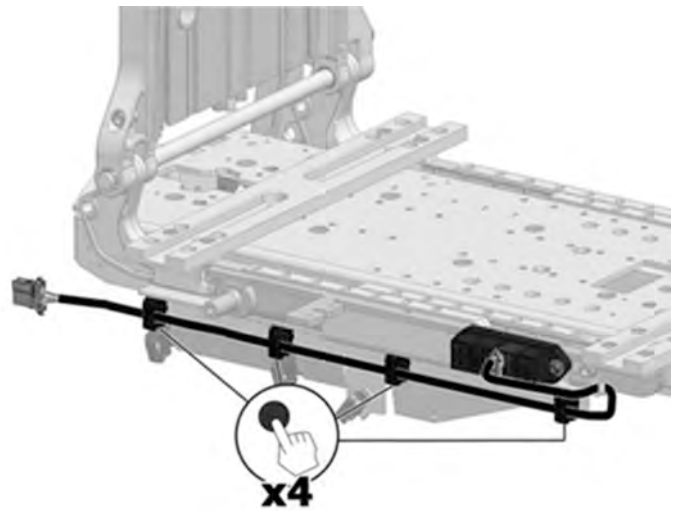

Figure 134. Tilt Motor Cable mounted with four cable brackets (Seat depth 545–570 mm (22”-23”).
4. If the seat depth is set between 545 – 570 mm (22” - 23”), the cable is mounted in four cable brackets. See fig. 134.